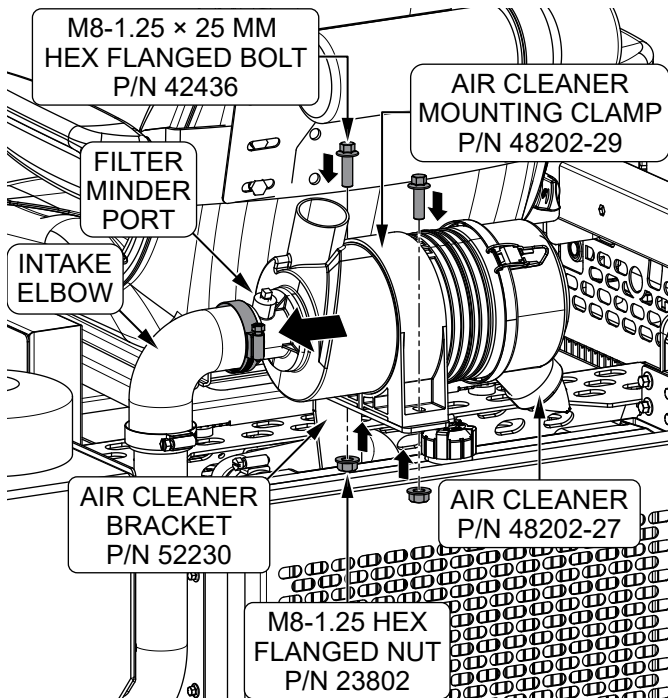

Figure 18. Install Air Cleaner
8. Install the **air cleaner mounting clamp (P/N 48202-29)** onto the **new air cleaner (P/N 48202-27)** as shown in Figure 18. Then insert the air cleaner into the **intake elbow** until the **filter minder port** rests against the elbow as shown.
9. Rotate the **air cleaner (P/N 48202-27)** to approximately the position shown in Figure 18. Adjust as needed to ensure the mounting clamp holes line up with the holes in the **air cleaner bracket (P/N 52230)**. Then secure the air cleaner to the bracket using the **two M8-1.25 x 25 mm hex flanged bolts (P/N 42436)** and **two M8-1.25 hex flanged nuts (P/N 23802)**. Tighten all hardware and hose clamps.